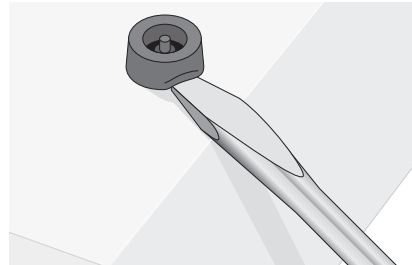

Figure 19. Removing Plastic Feet from the Chassis
2. Using a flathead screwdriver, remove the plastic feet from the bottom of the chassis, as shown in Figure 19.